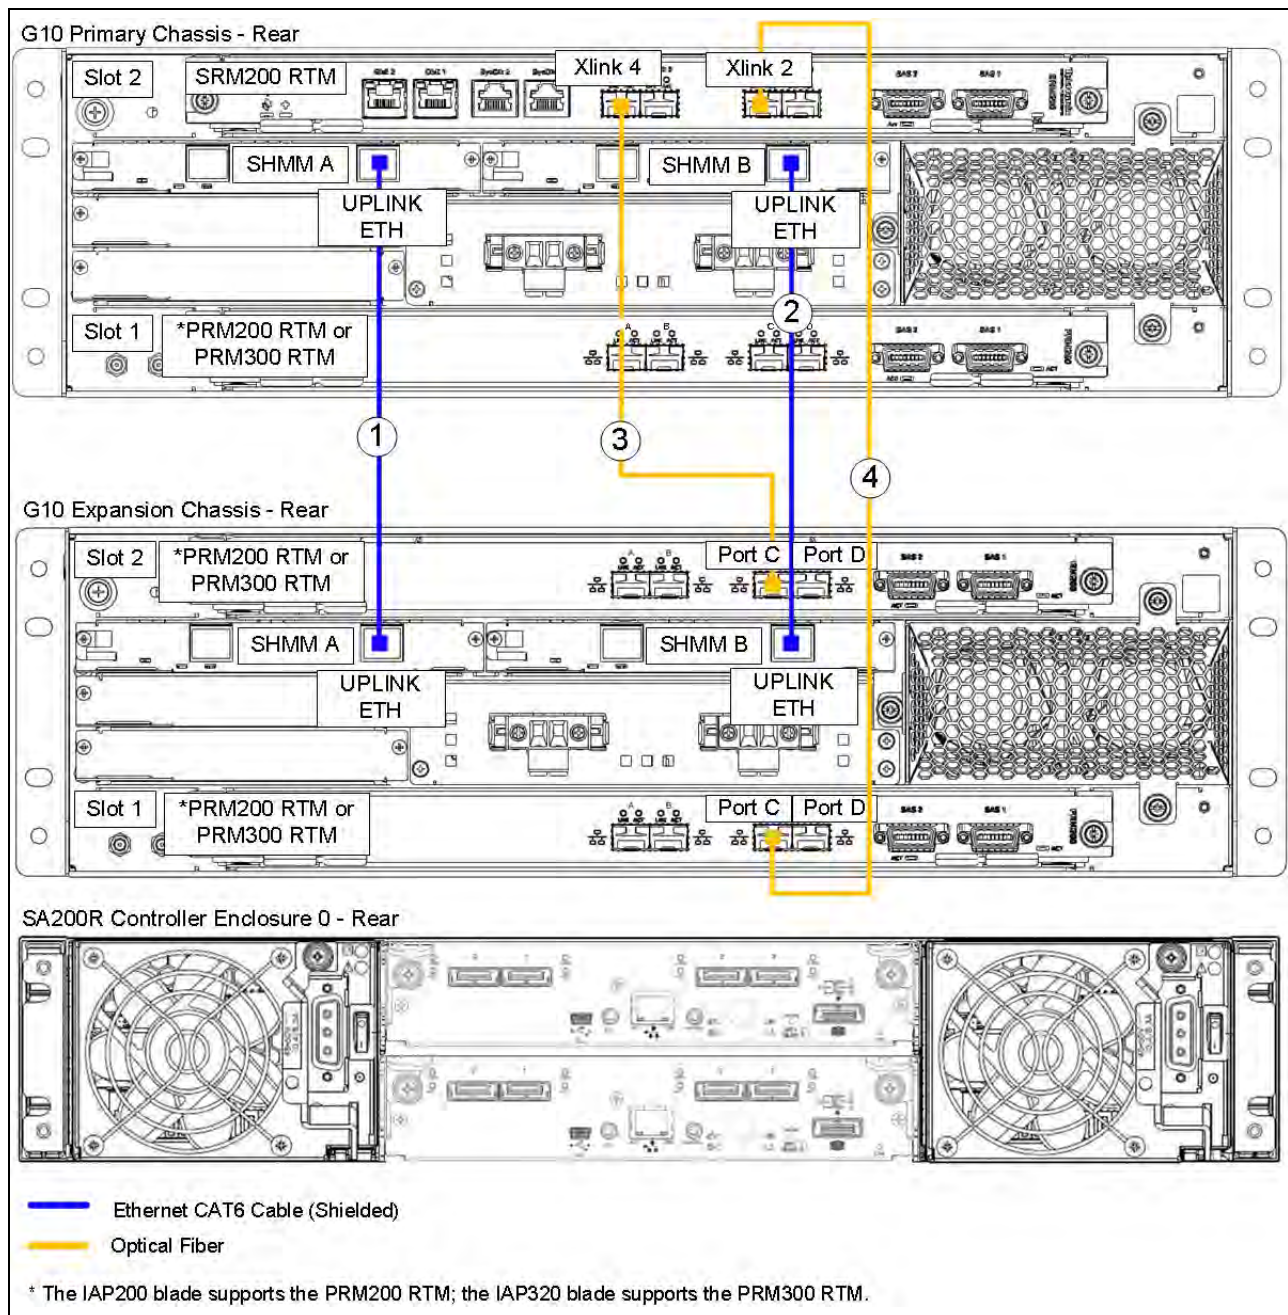

Figure 3.3 - Ethernet Connections Between G10s
4. Connect Ethernet cables between the primary and expansion G10 chassis as shown in Figure 3.3 and Table 3.3.